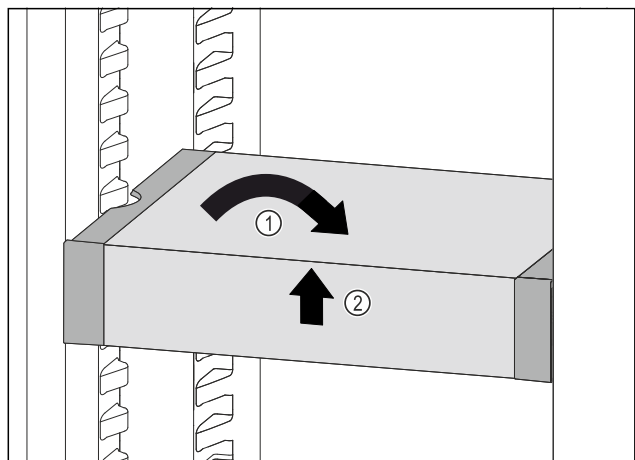

Fig. 201
- ▶ Set VarioSafe straight. Fig. 201 (1)
- ▶ Lift VarioSafe at the front. Fig. 201 (2)